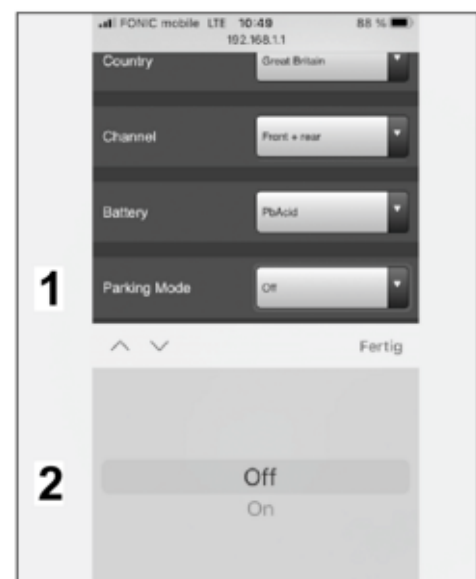

Figure 28
5.3.5 Select Park mode (⇒ Figure 28)